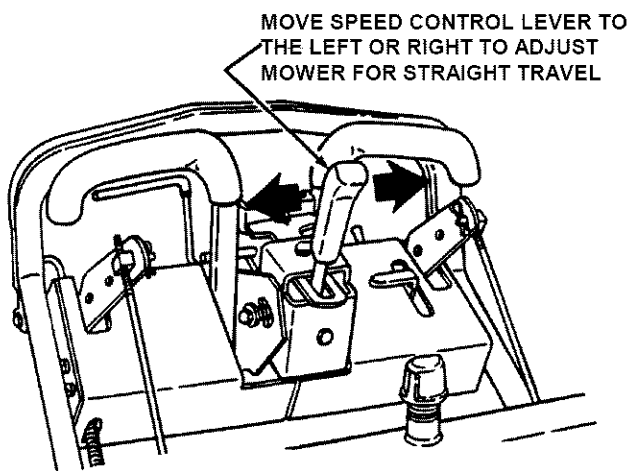

FIGURE 3.5
7. Proceed to go forward while allowing the machine to travel in a straight line. If the machine veer towards the LEFT or RIGHT, it can be brought back to a straight path by moving the Speed Control Lever in the desired direction of travel. See Figure 3.5.
8. Proceed to go forward while allowing machine to travel in a straight line. If the machine has a tendency to veer towards the LEFT or RIGHT, it can be brought back to a straight path by moving Speed Control Lever in the desired direction of travel. Refer to Figure 3.5.